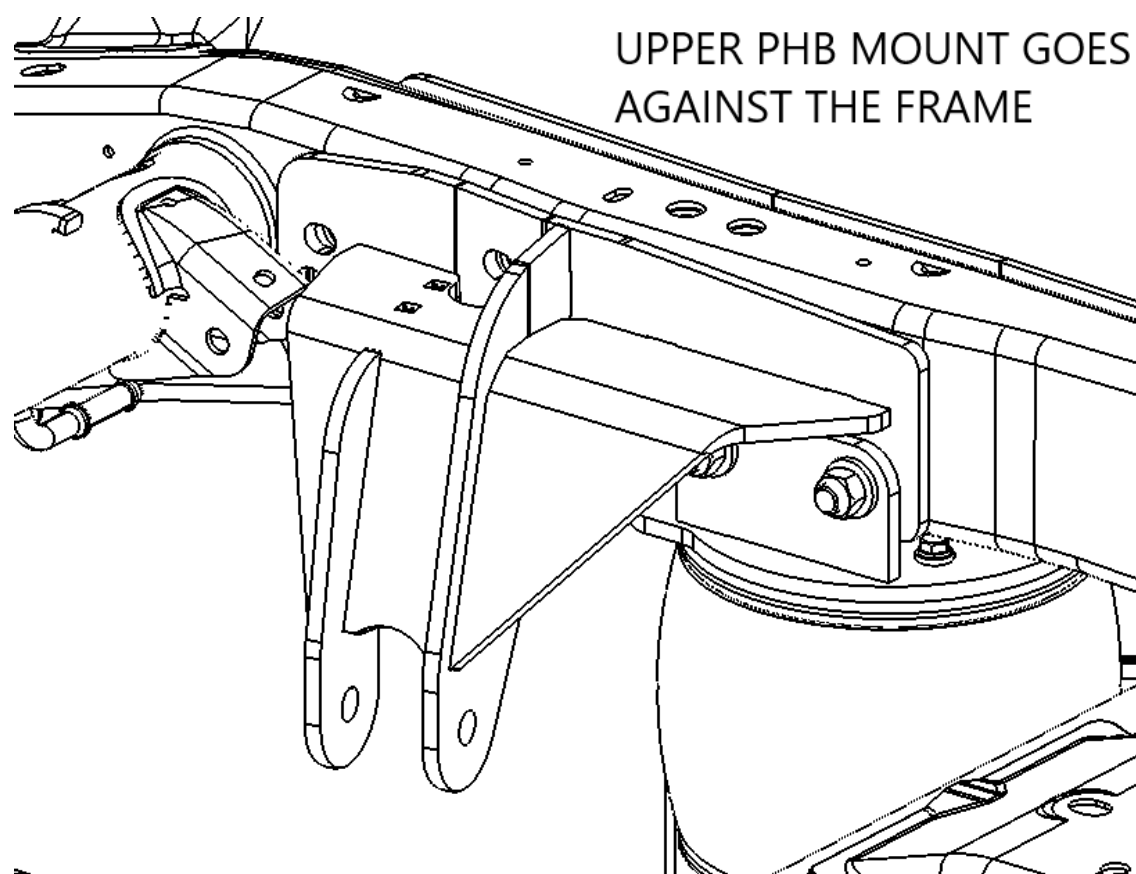

Figure 19
- 9:** Mount the upper bag mount to the frame on the passenger's side. Use the 5/8" x 5", P/N 12435, and the 5/8" x 6" bolts, P/N 12443, along with the Crush Bushings, P/N 10006399. Also install the 1/2"-20 x 1 1/2" bolt P/N 12007. The upper Panhard bar mount must be installed at the same time. It goes against the frame, see figure 19. Do not install the three forward bolts yet, as they go through the front trailing arm mounts as well. Install the crush bushings through the upper bag mount and the holes that you drilled into the frame. See figures 10, 18, 19, and 20.